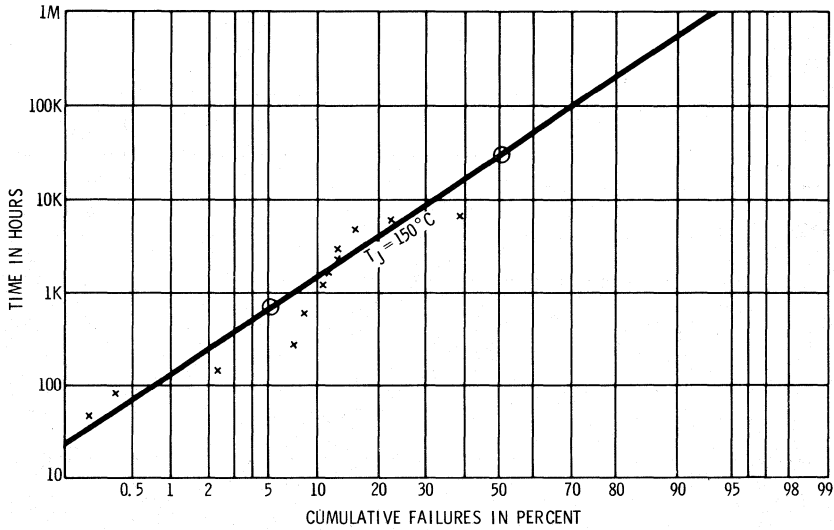
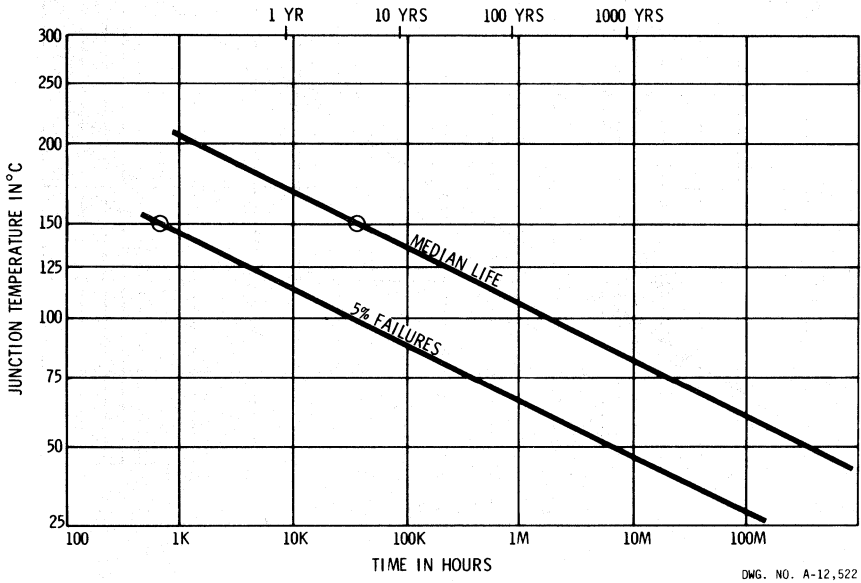

Figure 1
Figure 2
The cumulative percent of failures is plotted on log-normal plotting paper in Figure 1. This paper has a logarithmic time-scale axis and a probability-scale axis. A log-normal distribution plots as a straight line. A line of best fit is drawn through the plotted points and extended to determine the median life-time at the 50% fail-point. The median life at a junction temperature of +150°C is, in this case, 31,000 hours.
The median life-point is drawn on Arrhenius graph paper in Figure 2. The Arrhenius plot gives a graphical solution, rather than a mathematical solution, to the problem of equivalent median lifetime at any junction temperature. A line is drawn through this point (or points when multiple temperatures are used) with a slope of $\epsilon = 1.0$ eV.
Although not as statistically accurate as the median lifetime, the 5% fail-point can be read from Figure 1 and plotted parallel to the median-life line in Figure 2.
The median life at reduced junction temperatures can now be determined using Figure 2. It must be emphasized that this is junction temperature and *not* ambient temperature. The temperature rise at the junction due to internal power dissipation must be taken into account using the formula:
The median lifetime, or 50% fail-point, as graphically determined in Figure 2, is approximately 22 years at +125°C or 190 years at +100°C junction temperature.
The approximate failure rate (FR) may be determined from $FR = 1/\text{Median Life}$, where Median Life is taken from Figure 2 at the intersection of the junction-temperature line and median-life line. The actual instantaneous failure rate can be calculated using a Goldwaite plot.⁴ However, this approximation is very close. At +100°C the failure rate would be:
Figure 2 shows that a design with a continuous operating junction temperature of $+100^\circ\text{C}$ (internal power dissipation plus external ambient temperature) would reach the 5% failure point in 3.8 years.